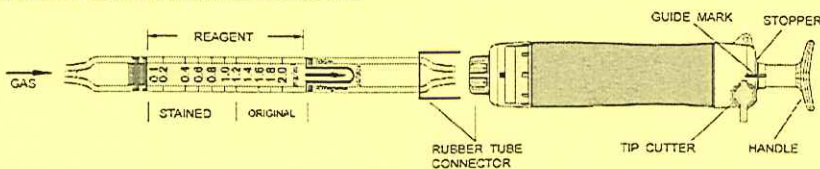

Fig.1
- ② Insert the detector tube into the aspirating pump securely as shown in Fig.1. (Arrow mark shall point to the pump.)
- ③ Align the guide marks on the shaft and stopper of the aspirating pump.
- ④ Pull the pump handle at a full stroke until it locks and wait for 1 minute or until the completion of sampling is confirmed with the flow indicator of the pump. (See descriptions about the flow indicator in the instruction manual of the pump.)
- ⑤ Push back the handle without removing the detector tube from the rubber tube connector so that air in the pump will be discharged perfectly. Then repeat the step ③~④ four times.
- ⑥ On completion of sampling, read the scale at the maximum point of the stained layer.
- ⑦ When the concentration is over the scale range, 1 pump stroke can be used to determine concentrations of 0.5 - 10.0 mg/m³.